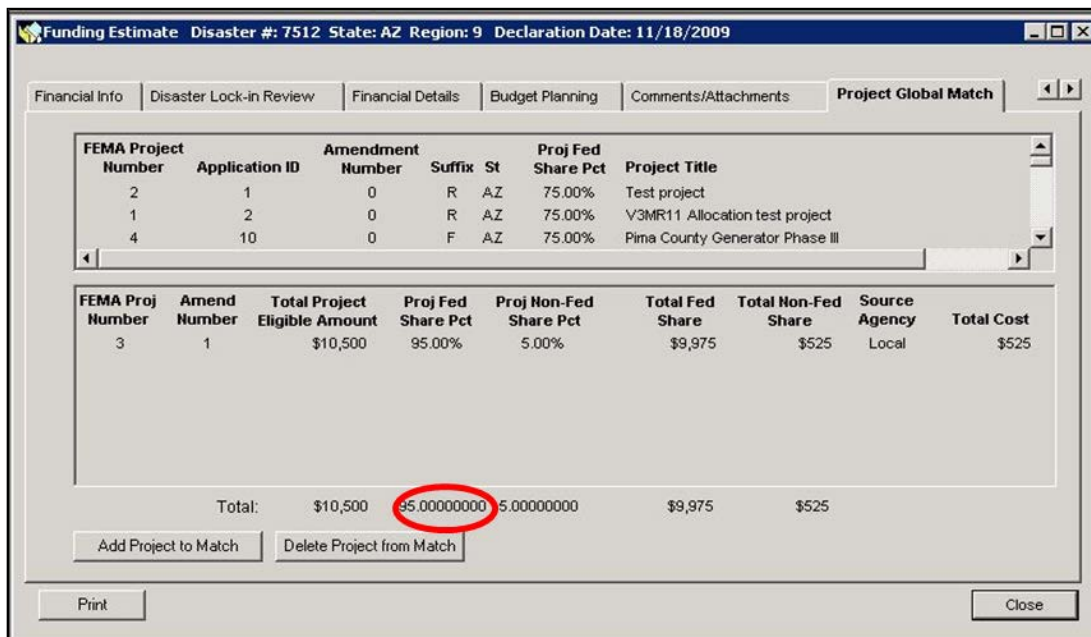

Figure 11-54: Project Added to Match
- Click the ADD PROJECT TO MATCH button. The project gets added to the list of projects in the bottom section of the tab (Figure 11-54).
CAUTION: The Total Project Fed Share Pct, (Figure 11-54), must be equal to or less than 75 percent.
8. Closely monitor the Total Project Fed Share Pct (Figure 11-54) throughout the obligation process.